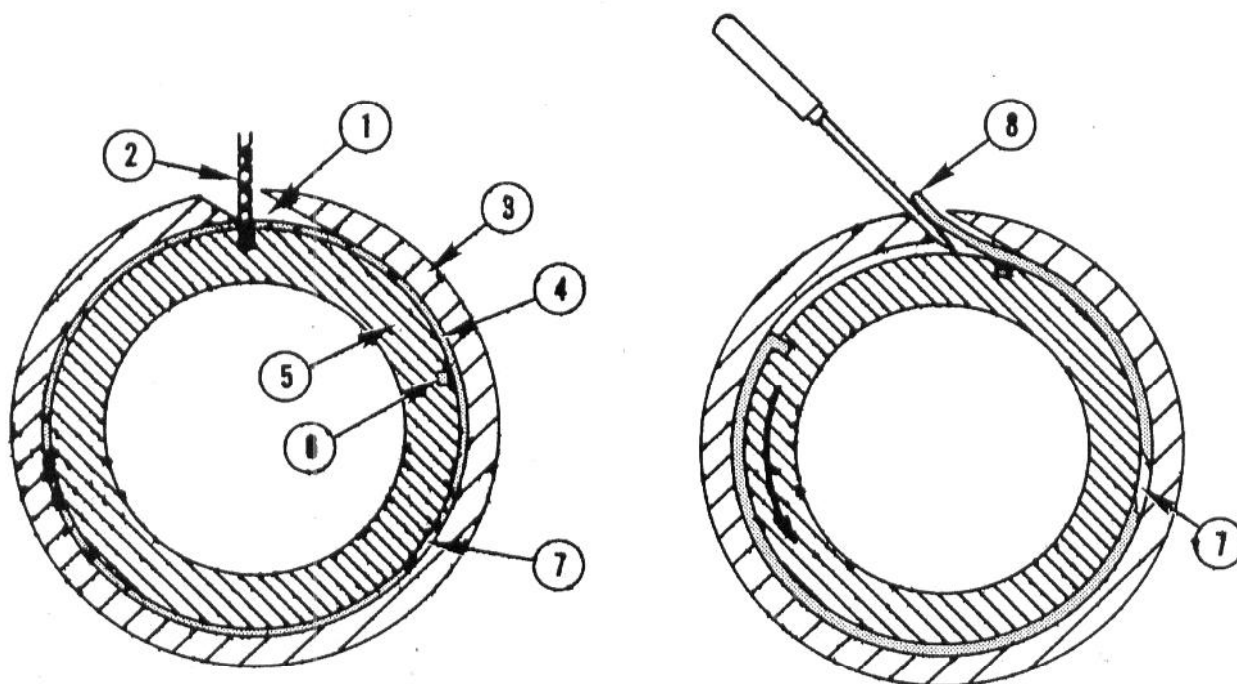

Fig. 44 — Drilling Through and Starting Wire Retaining Ring for Removal of Broken Ring
c. If wire retaining ring is broken and will not turn ... carefully center punch wire (through hole in barrel) then CAREFULLY drill through wire without permanently damaging bearing. See Figs. 44 and 45. Refer to "Service Information" for cylinder being serviced to obtain wire size, hole diameter and hole depth. Insert a piece of wire same SIZE as retaining wire (or a "drive lug") into drilled hole ... but with a length the same depth as drilled hole. Check that wire piece (or "drive lug") will not damage barrel when bearing is turned ... if necessary, grind wire so that it will clear barrel. Rotate bearing until end of wire retainer is visible at hole in barrel ... continue to rotate bearing (to remove broken ring) then proceed to step #d.